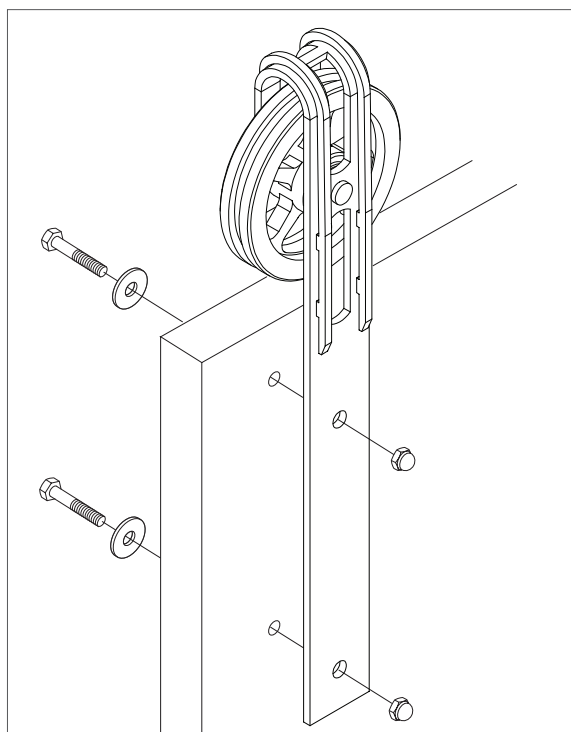

Figure 6
7. Install the hangers to the front of the door using hex bolts, washers, and acorn nuts (provided) (Figure 6).